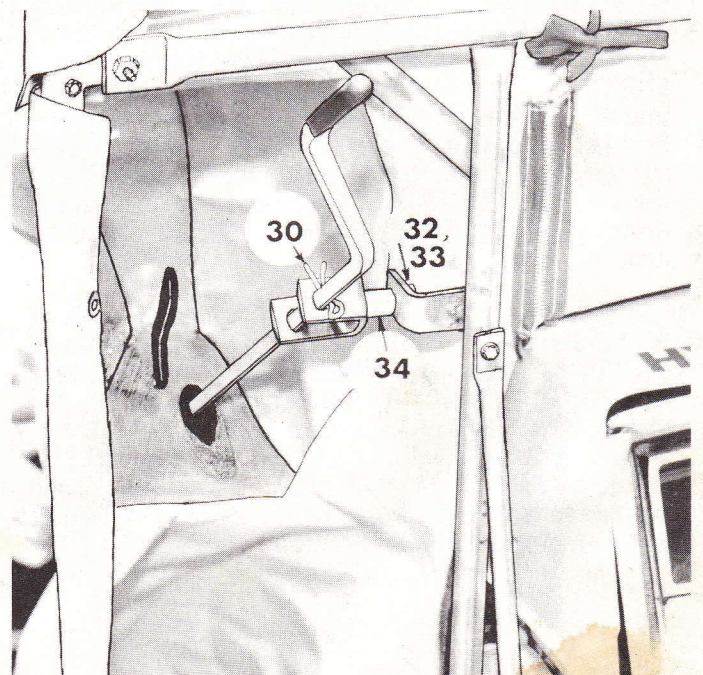
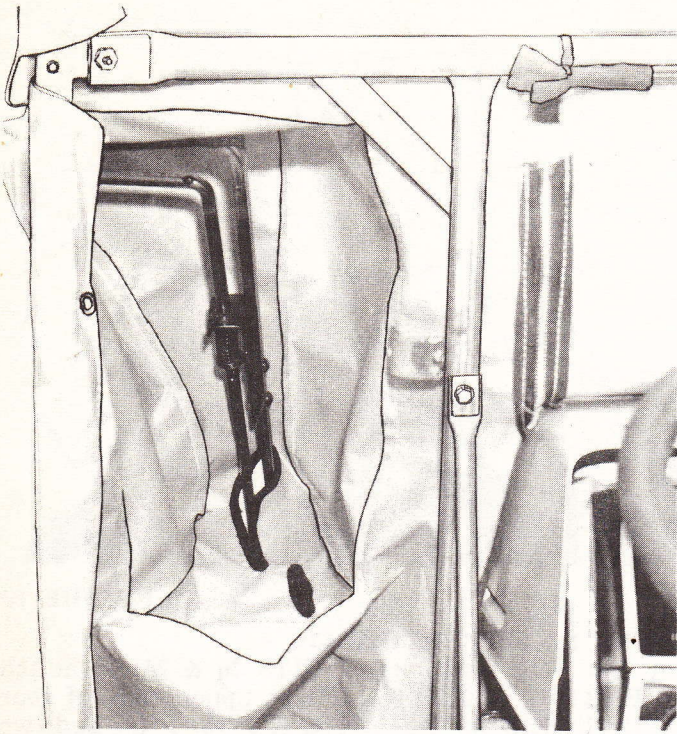

FIGURE 18
FIGURE 19
B. To install PART 19 (FRONT PANEL VINYL) correctly, front mounted blade or snow blower controls must be placed thru proper openings in FRONT PANEL VINYL before it is zippered to the lower edge of the WINDSHIELD. SEE FIGURE 18 if snowthrower attachment was previously mounted: remove the snowthrower discharge chute control crank support arm from the tractor. Use a 5/16" x 1 1/2" bolt (PART 33), 5/16" nut (PART 32), and SPACER (PART 34) to attach the "U" shaped bracket as shown. Place a COTTER PIN (PART 30) thru the hole in the chute control crank as shown. (SEE FIGURE 19 if you have a dozer blade attachment. Use LEFT HAND 5" slit for dozer lift arm.)